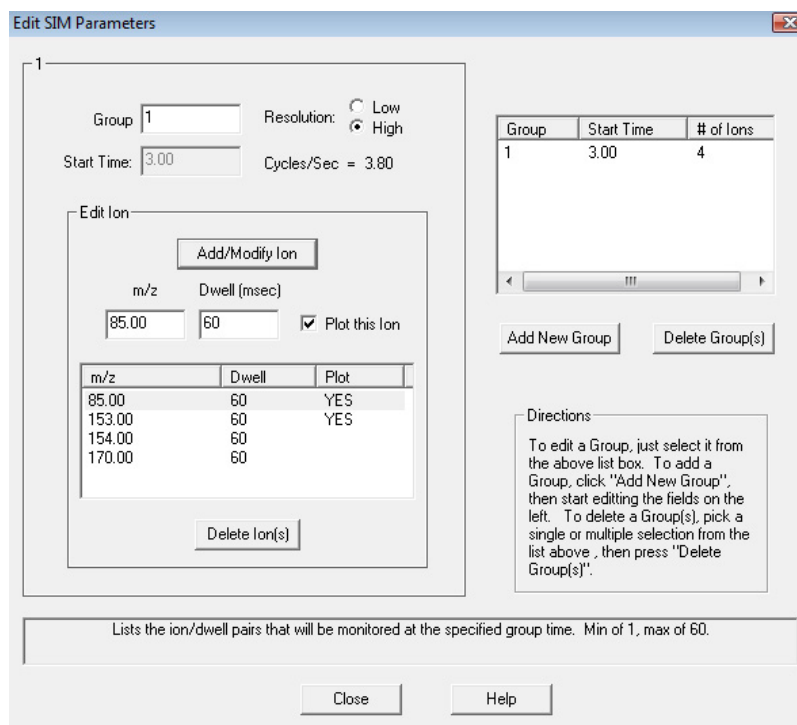

Figure 40 Entering Group 1 ions
- 6 Select **SIM Parameters**. The **Edit SIM Parameters** dialog box opens. See Figure 40.